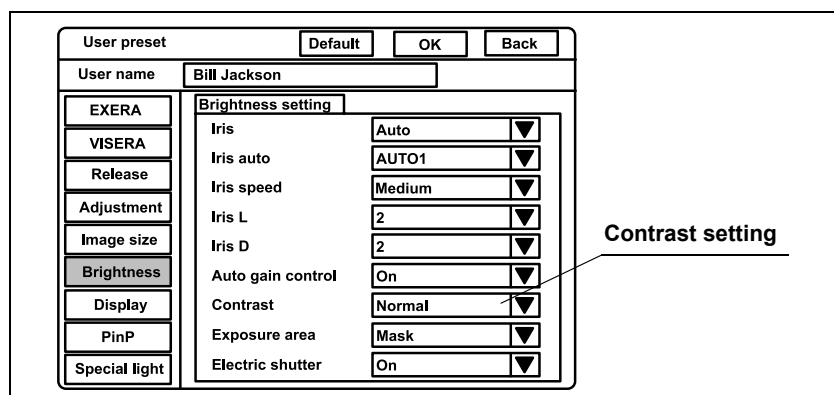

Figure 9.28
1. Click “ ▼ ” of “Contrast” (see Figure 9.28). The exposure areas appear in the pull-down menu.